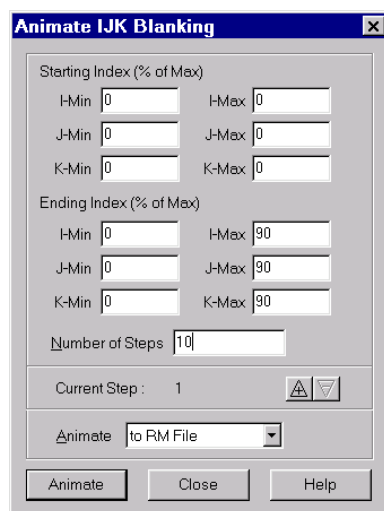

Figure 29-4. The Animate IJK-Blanking dialog.
5. From the Tools menu, choose Animate, then choose IJK-Blanking. The Animate IJK-Blanking dialog appears, as shown in Figure 29-4.